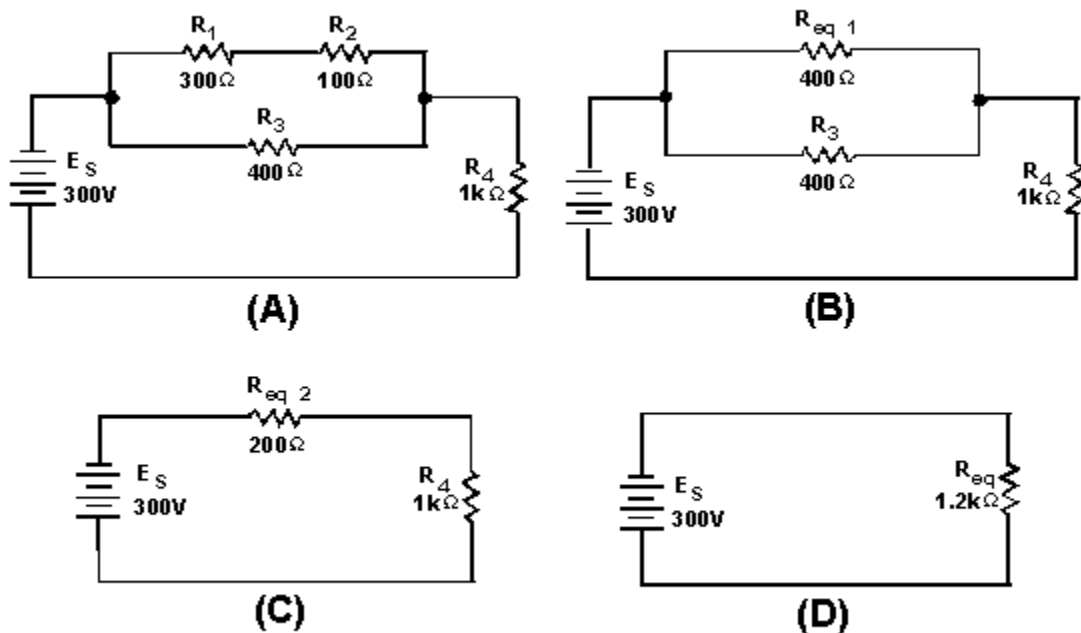

Figure 3-55.—Combination practice circuit.
Figure 3-55 is a typical combination circuit. To make sure you understand the techniques of solving for the unknown quantities, solve for  $E_{R_1}$ .
Redraw the circuit as shown in figure 3-55(B).
Redraw the circuit as shown in figure 3-55(C).
*Q42. Refer to figure 3-55(A). If the following resistors were replaced with the values indicated:  $R_1 = 900\Omega$ ,  $R_3 = 1k\Omega$ , what is the total power in the circuit? What is  $E_{R2}$ ?*